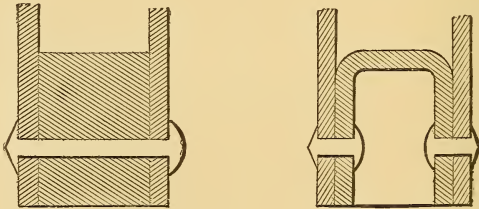

Fig. 11. Solid Mud Ring. Fig. 12. Flanged Mud Ring.
A. Instead of the solid mud-ring as in figure 11, there may be a ring of boiler-plate flanged over so as to have a section as in figure 12, with both the inner and the outer sheets riveted to this.